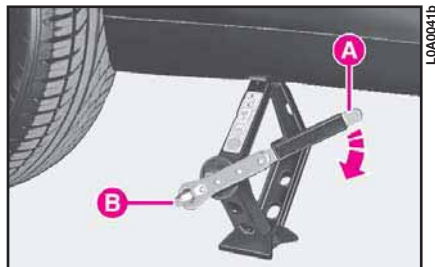

fig. 14
15) Insert the ratchet wrench **A** (fig. 14) with the bolt bush **B** on the jack groove.